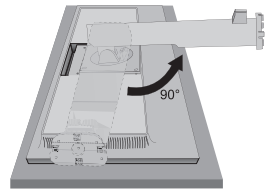

Figure 1
1. Place monitor face down on a non-abrasive surface (**Figure 1**).
2. Please pivot base 90 degrees as shown in **Figure 1**.